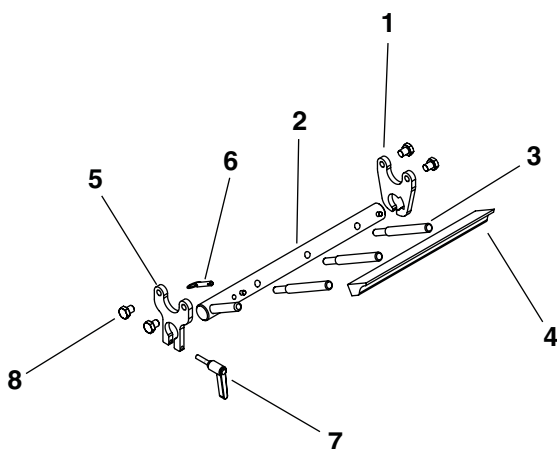

Figure 7
Typical Scraper Components (Figure 7)
1. Attach the scraper adjust plate (Figure 7, item 1) and the scraper mount plate (Figure 7, item 5) to the frame using four M10-1.5 x 12mm hex head cap screws.